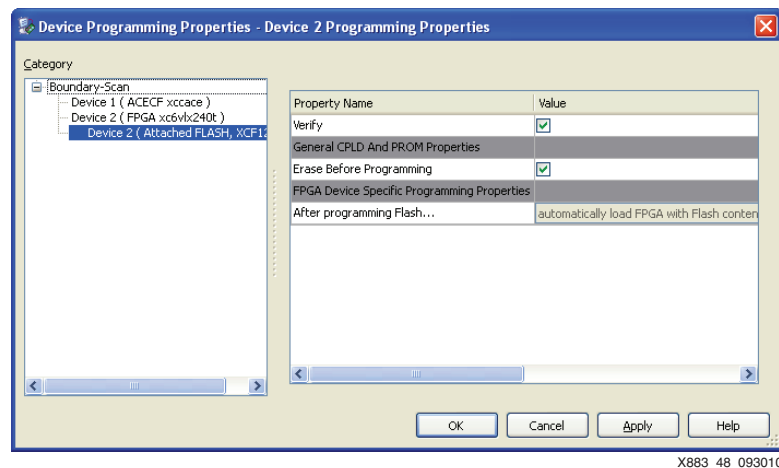

Figure 48: Device 2 Programming Properties
21. Use the default settings and click OK (see Figure 48).